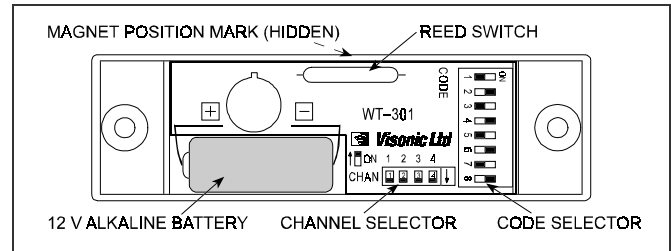

Figure 1. WT-301 - Internal View
- A. The WT-301 has an eight-key DIP switch (marked 1 to 8). Each switch may be set to ON or OFF position, to create a unique digital system code - see Figures 1 and 2.